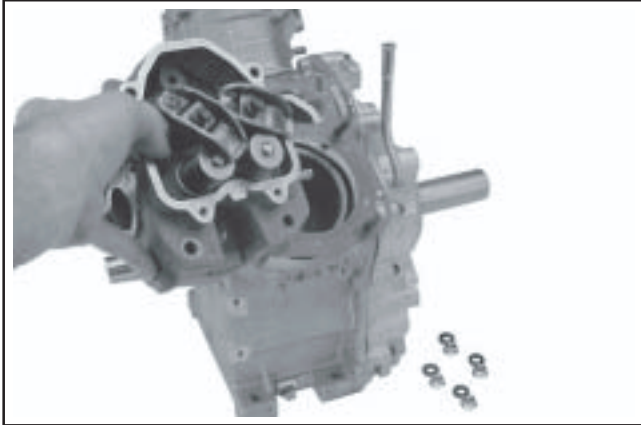

Figure 9-52. Removing Cylinder Heads and Gaskets.
4. Remove the four hex. flange nuts and washers from the cylinder head studs. Carefully remove the cylinder heads and head gaskets. See Figure 9-52.